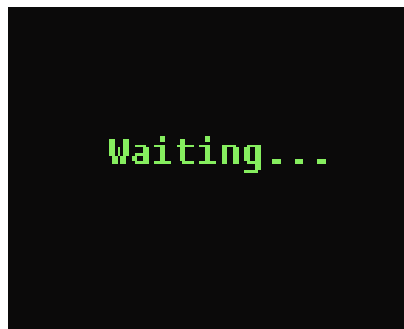

Figure 13.
- d. When the stored data is being uploaded , the screen displays as figure 13.